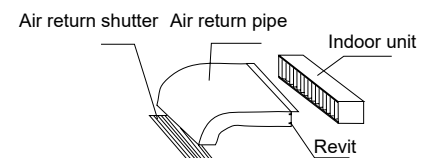

Fig.1
- (1) Cut a hole on the wall and put the connecting pipe and connecting thread into the PVC, which is purchased at the local shop. With a slight downwards tilt towards the exterior, the gradient should be kept at least 1/100, as shown in Fig.1.
- (2) Before cutting the hole, check if there are pipes or reinforcing steel bars at the rear of the hole. Making the hole in the place where wires or pipes should be avoided.
- (3)
- (4) Fix the unit support and change the connection pipes, connecting the shapes of wires and drainpipes so as to let them go through the wall hole.
Connect one side of the air return pipes to the air return port of the indoor units with rivets, with the other side connected to air return shutter, as shown in Fig.1.